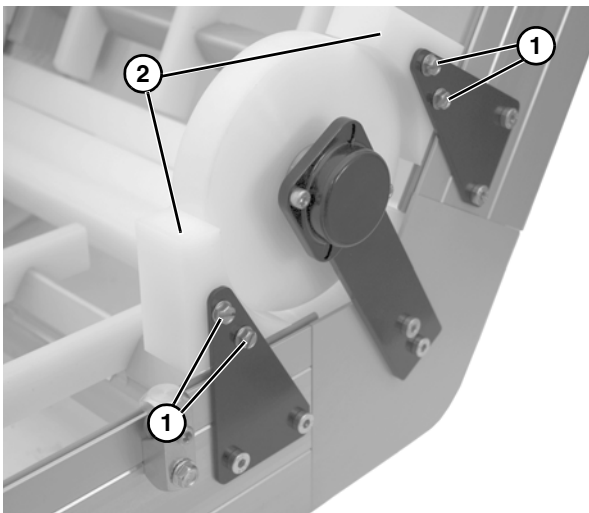

Figure 72
2. Remove two cap screws (**Figure 72, item 1**) on each side of the knuckle and remove the hold down roller guards (**Figure 72, item 2**). Repeat on opposite side.